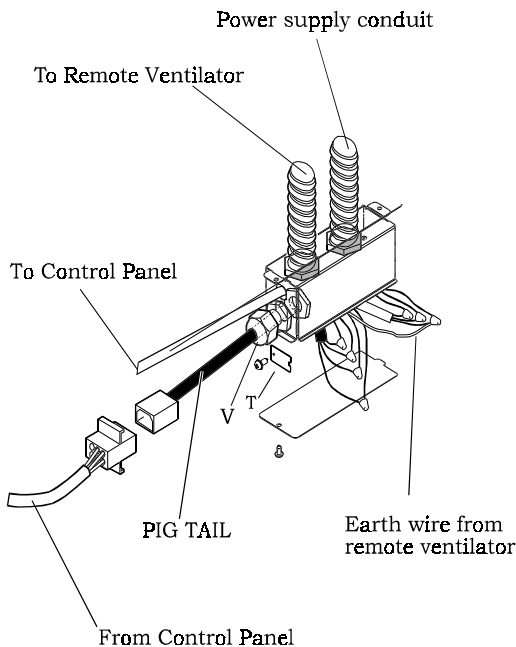

Figure 15
1. Remove the j-box cover as shown in Figure 15.
6. Connect wire clamp to “pigtail” as shown in Figure 15. Insert “pigtail” wires into j-box and fix wire clamp to j-box using nut supplied with wire clamp **V**.